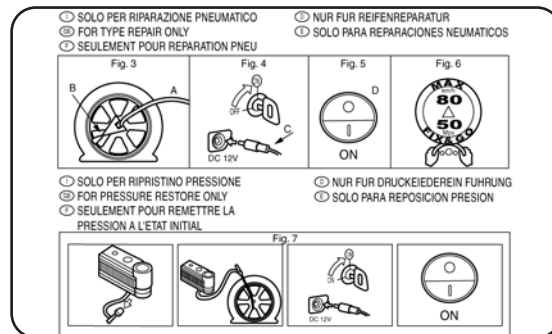

fig. 14
- an information booklet fig. 14, providing instructions for using the kit correctly. This booklet should be given to the persons charged with handling the tyre treated with this kit;